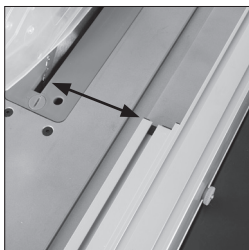

Fig. 45
- We recommend you adjust and align the back of the Rip Fence faceplate level with the front of the saw blade (**Fig. 45**).